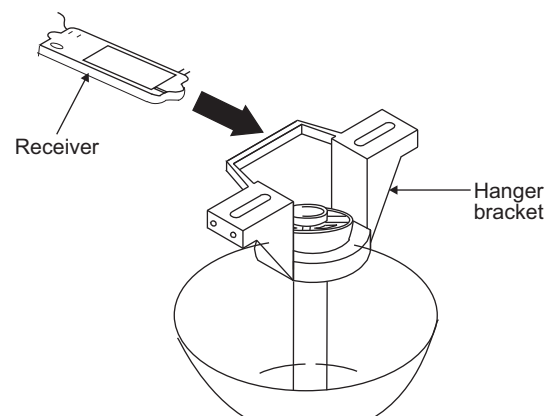

Figure 11
Step 1. (Figure 11) Insert the receiver into the mounting bracket with the flat side of the receiver facing the ceiling.